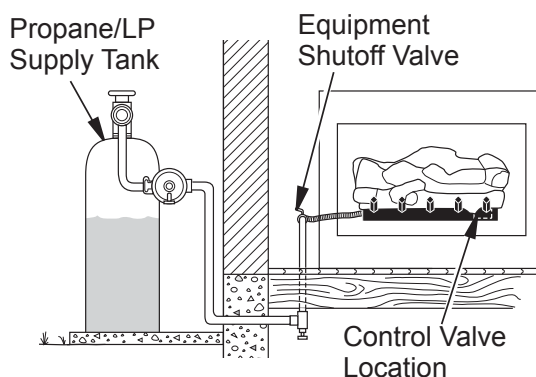
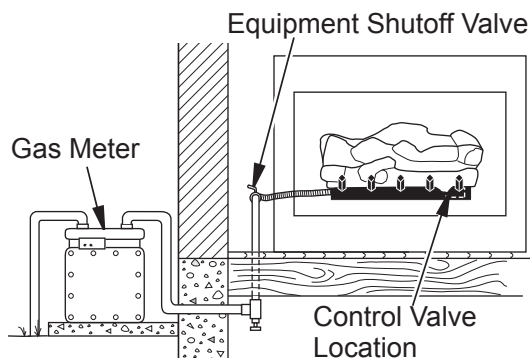

Figure 15 - Checking Gas Joints (Propane/LP Only)
Figure 16 - Checking Gas Joints (Natural Gas Only)
3. Check all joints from gas meter to equipment shutoff valve for natural gas or propane/LP supply to equipment shutoff valve for propane/LP (see **Figure 15** or **Figure 16, Pages 14-15**). Apply noncorrosive leak detection fluid to all joints. Bubbles forming show a leak.
4. Check all joints from gas meter to equipment shutoff valve for natural gas or propane/LP supply to equipment shutoff valve for propane/LP (see **Figure 15, Page 14** or **Figure 16, Page 15**). Apply noncorrosive leak detection fluid to all joints. Bubbles forming show a leak.